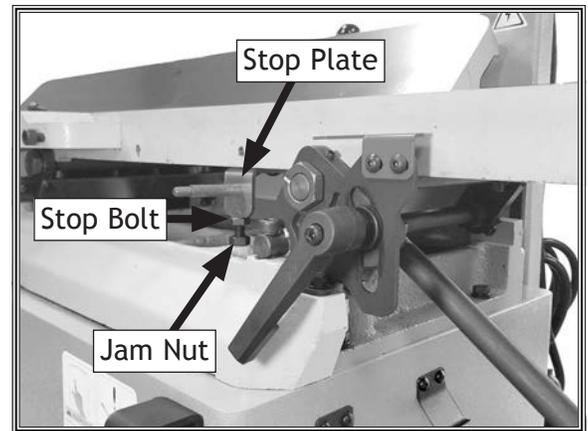

Figure 51. Location of 1/8" infeed table stop bolt and jam nut.
3. Loosen jam nut on the 1/8" infeed table stop bolt (see **Figure 51**), and then rotate stop bolt clockwise a couple turns to move it down, so it will clear the stop plate during adjustment process in later steps.
5. Rotate stop bolt (see **Figure 51**) counterclockwise to move it upward until it makes firm contact with stop plate (see **Figure 51**).
6. Hold stop bolt in place, and tighten jam nut (see **Figure 51**) down firmly against the casting to secure stop bolt in place.